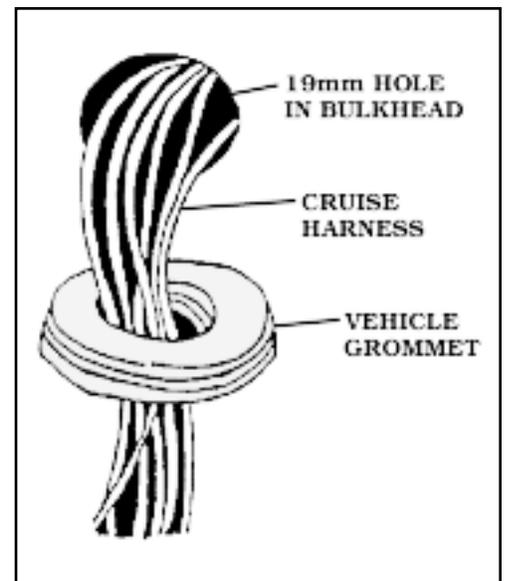

Figure 32
- C. **CRUISE HARNESS** needs a **19mm (.75")** hole to pass through bulkhead. You may find one nearby, such as the speedometer cable hole or a small one you can file larger. If you find the right size hole in the right place, remove vehicle grommet. If not, drill, saw, or punch a **19mm** hole in bulkhead. A hole a few millimeters to the left or slightly higher than the steering column is usually a good place. **Figure 32**
Seal hole in bulkhead with **SEALING PUTTY** as shown in **Figure 32**.